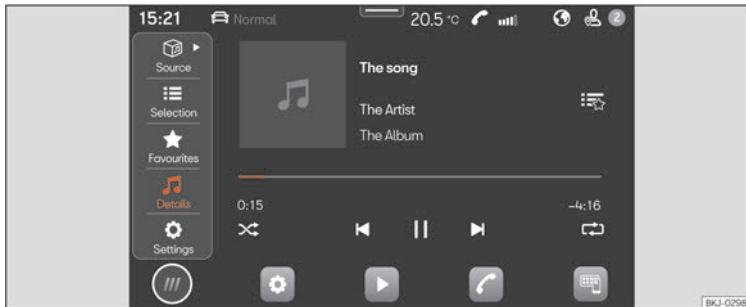

Fig.130 Schematic representation: Multimedia view
- Press **HOME** > ► >>> **Fig. 130**.